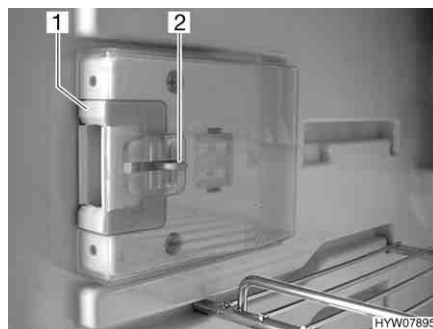
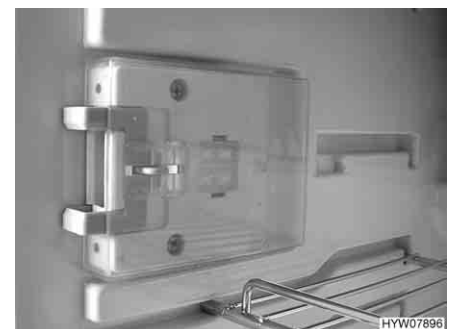

Fig. 195 Locking device in normal position
Fig. 196 Locking device in ventilation position
- Press down the unlocking device (Fig. 195,2).
- Push locking device (Fig. 195,1) forwards (Fig. 196).